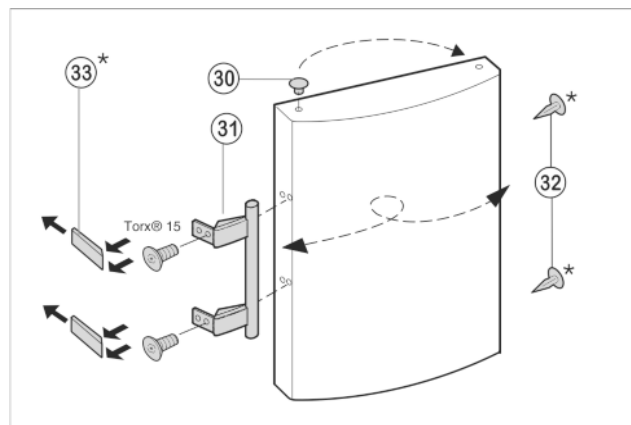

Fig. 7
- ▶ Lift the plug Fig. 7 (30) out of the door bearing bush and re-locate.
- ▶ Dismantle the door handle Fig. 7 (31), plug Fig. 7 (32) and pressure plates Fig. 7 (33), and re-locate to the opposite side.